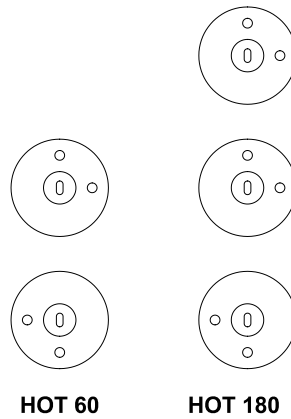

fig 1. Bracket Positions
Position brackets (C) on the wall with screw holes as shown in figure 1 for maximum rigidity before tightening the screws (D).